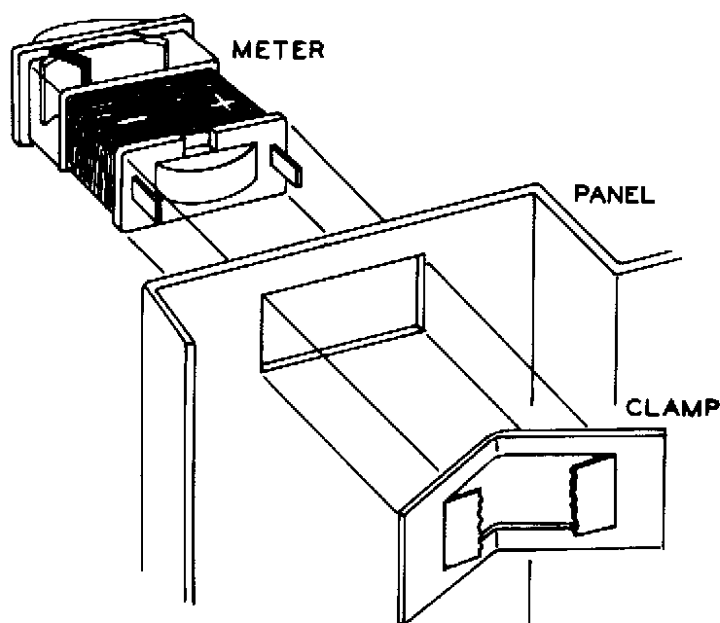

Figure 21
- (✓) Mount the meter in the position shown in Pictorial 2. The positive (+) lug goes toward the dial drum. Hold the meter against the panel, and slip the clamp over the rear of the meter. With a screwdriver, push both sides of the clamp tightly against the panel as shown in Figure 21.